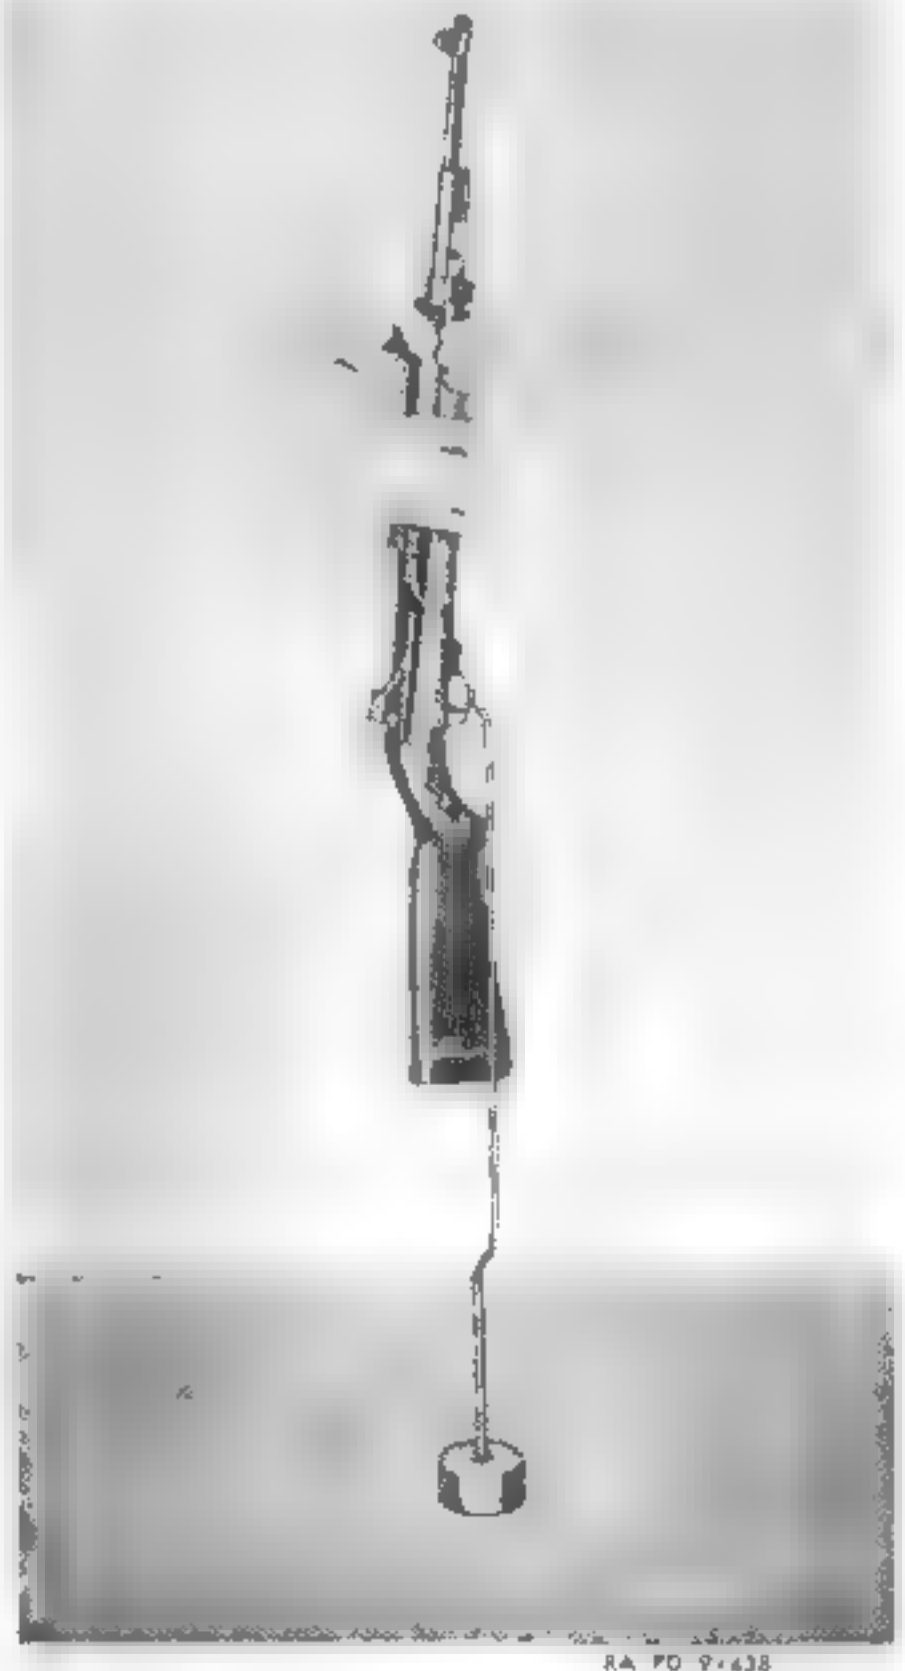

Figure 43c. Testing trigger pull.
- (2) *Testing trigger pull* (Fig. 43c). Note that safety is disengaged (its tang is point to rear) and that carbine is cocked. Have the weights resting on the floor or ground and insert the hook of trigger weight wire through the trigger housing guard bow to bear on the trigger so that pressure is applied one-quarter inch from lower end or tip of trigger. With the barrel of the carbine held vertically, raise the weight from the floor as gently as possible. If 4½-pound weight pulls the trigger to release the hammer, or the 7-pound weight fails to pull the trigger to release the hammer, correction is required. The only correction allowed in field repair is the selective assembly of hammer, hammer spring, sear, or trigger or all four until the required pull is obtained. Take care during the test to see that the wire contacts the trigger only and does not rub against the trigger housing or stock, and that wire and axis of bore are perpendicular to the floor.